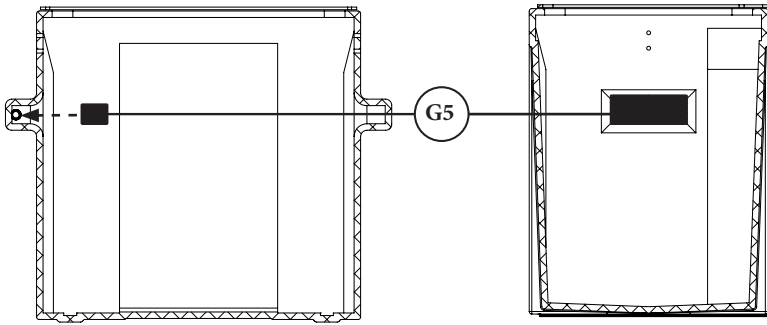

FIG. 4
Insert the Foam Block (G5) into the hollow handle space where the Straight Fitting (E) is installed within the Dust Bin (B). This prevents material from being sucked into the Straight Fitting (E) [FIG. 4].